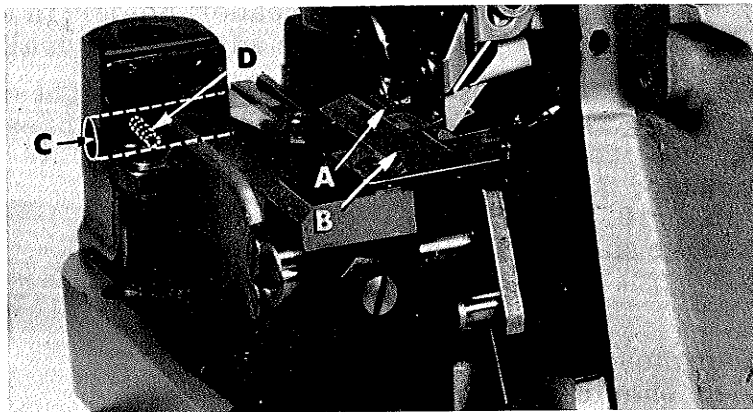

Fig. 13
Assemble chaining feed dog (A, Fig. 13) to main feed dog (B). Main feed dog should be levelled with respect to the throat plate by rotating feed tilting adjusting pin (C). This pin raises or lowers the back end of the feed bar.